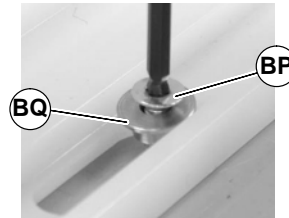

Figure 58
- With a T-20 Torx head wrench, remove screw (BP of Figure 58) and bushings (BQ). Remove old wear strip.